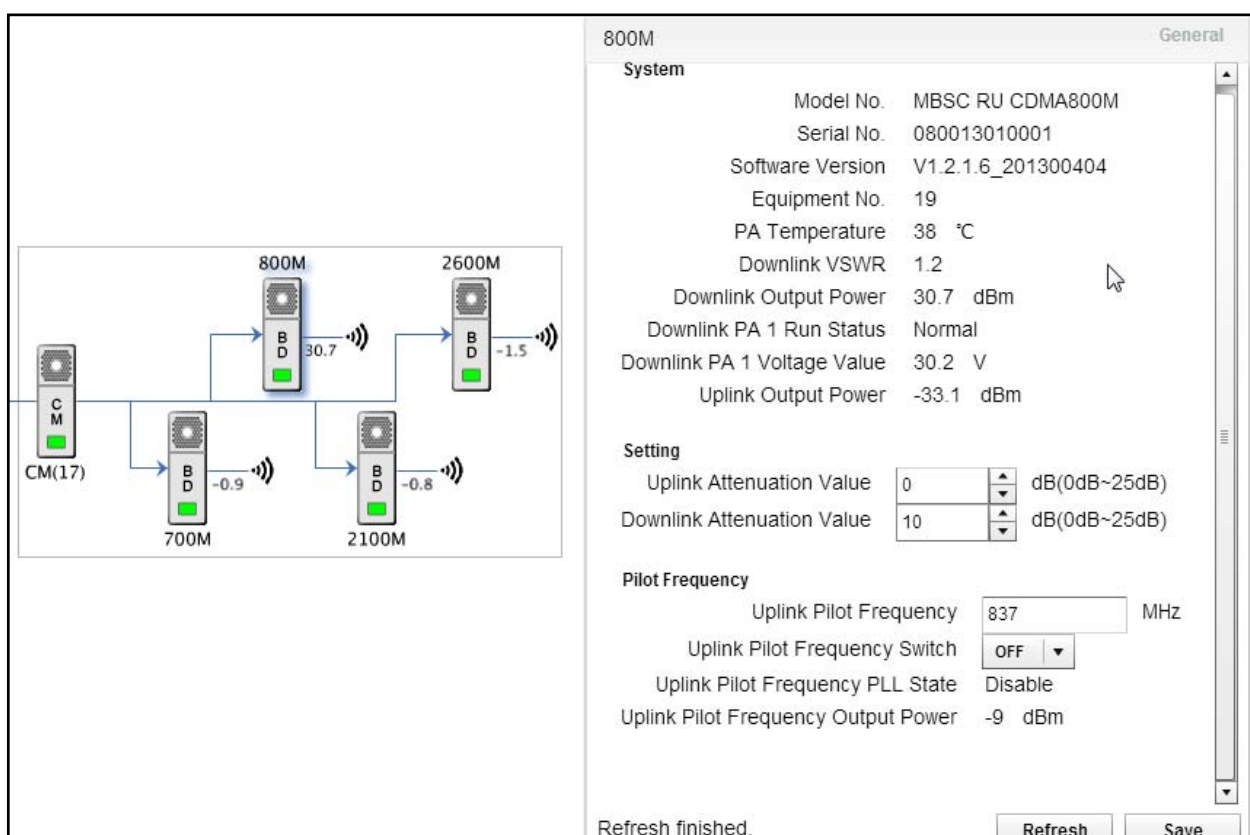

Figure 52 – Up/Down Link Verification
- a. In the topology window the Downlink Output power is displayed next to the specific RU (e.g. 30.7 dBm indicated in the topology diagram by the 800MHz RU in Figure 52 – Up/Down Link Verification)
1. Click on the RU for the desired frequency band. The component window ;will pop up as shown in Figure 52 – Up/Down Link Verification